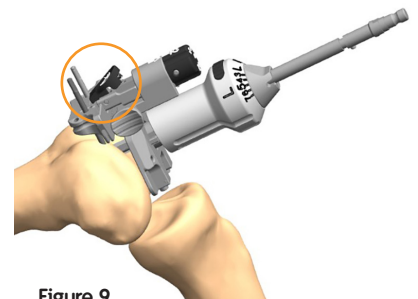

Figure 9
2. Push the button on the Valgus Bridge (Figure 9) to remove the alignment assembly from the incision site. Only the distal cutting block should remain on the femur.